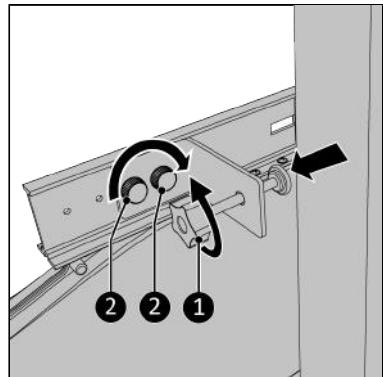

Figure 82.
12. Screw the clamping screw all the way back (Figure 82, pos. 1).
15. Screw the clamp bracket to the main rail using the two knob screws (Figure 82, pos. 2).